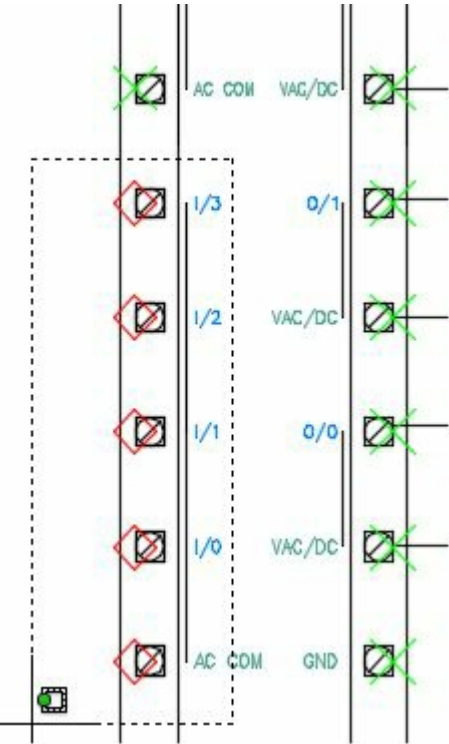

Figure-55. Input ports selected
- Select the Input ports and AC COM as shown in Figure-55.